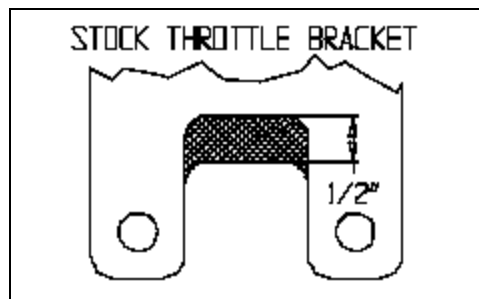

Figure 2
- **THROTTLE BRACKETS:** Due to the design of Performer manifolds, the throttle and kickdown bracket on some vehicles may require modification to fit. See figure 2 for guidelines or purchase our #8036 (Gold Cad plate) or our #8030 (chrome) throttle, cruise, and kickdown linkage bracket.